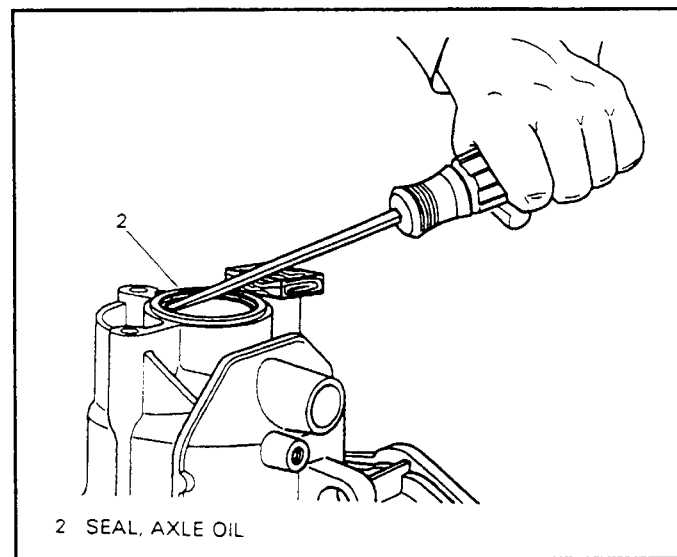

Figure 85
90. Remove the right hand axle seal from the case using a screwdriver or appropriate seal removal tool (See Figure 85).